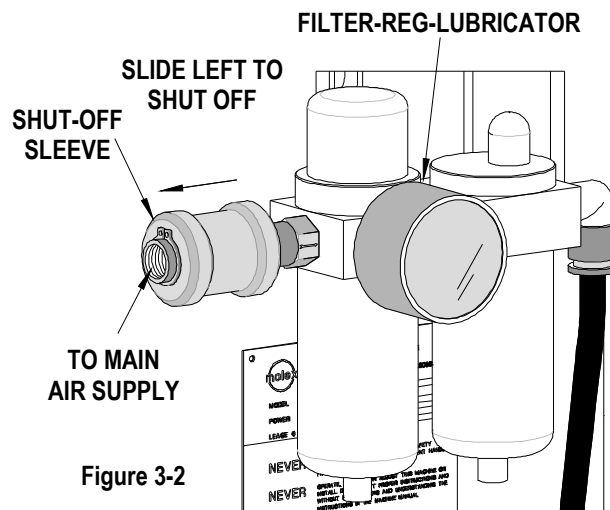

Figure 3-2
9. Disconnect the air supply from the filter-regulator-lubricator supplied with the press, by sliding the shutoff valve sleeve to the left, as shown in Figure 3-2. Remove the plugs from the fittings on the air valve. Do not discard the plugs; when the air applicator is not being used, the fittings should be plugged.
Note: When not using an air feed applicator always shutoff the air supply to the filter-regulator-lubricator by sliding the shutoff valve sleeve to the left, the opposite direction of the airflow, as shown in Figure 3-2.